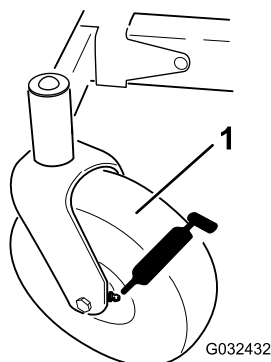
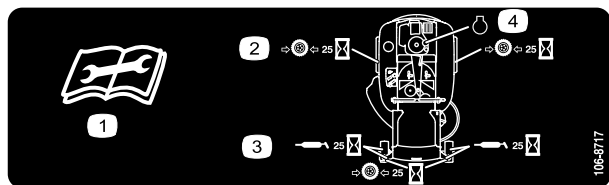

Figure 38
Figure 39
3. Clean the grease fittings (Figure 38 and Figure 39) with a rag.
4. Connect a grease gun to each fitting (Figure 38 and Figure 39).